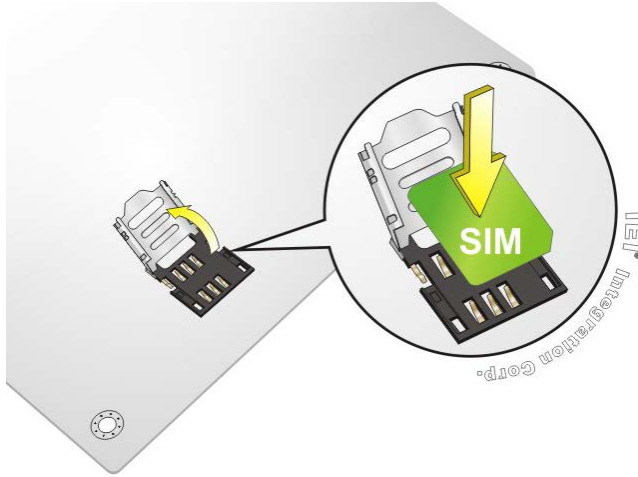

Figure 3-9: SIM Card Installation
Step 3: Open the slot cover and place a SIM card onto the slot. The cut mark on the corner should be facing away from the slot as shown in **Figure 3-9**.